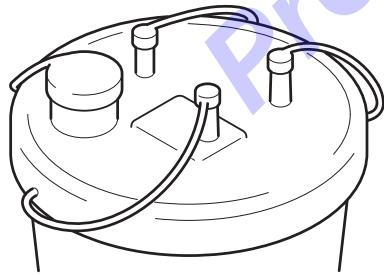

Figure 120 – All Suction Canister Ports Closed
3. Close all open canister ports to make sure the suction canister is sealed and will not leak surgical waste (Figure 120).